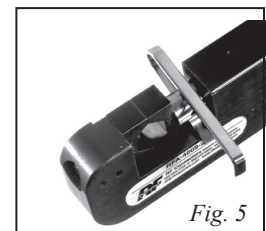
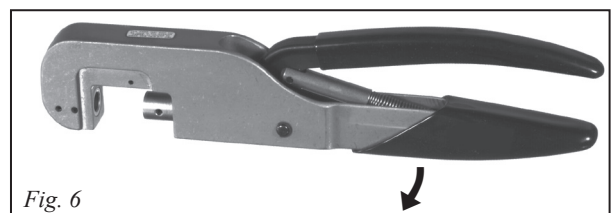

Fig. 5
Fig. 6
2. Remove lower die: Close the crimp handle and slide the die removal tool between the die and tool body. (Fig. 5) Squeeze handle and release quickly with a snapping action. This will pull the die free and it can then be removed by hand. (Fig. 6)